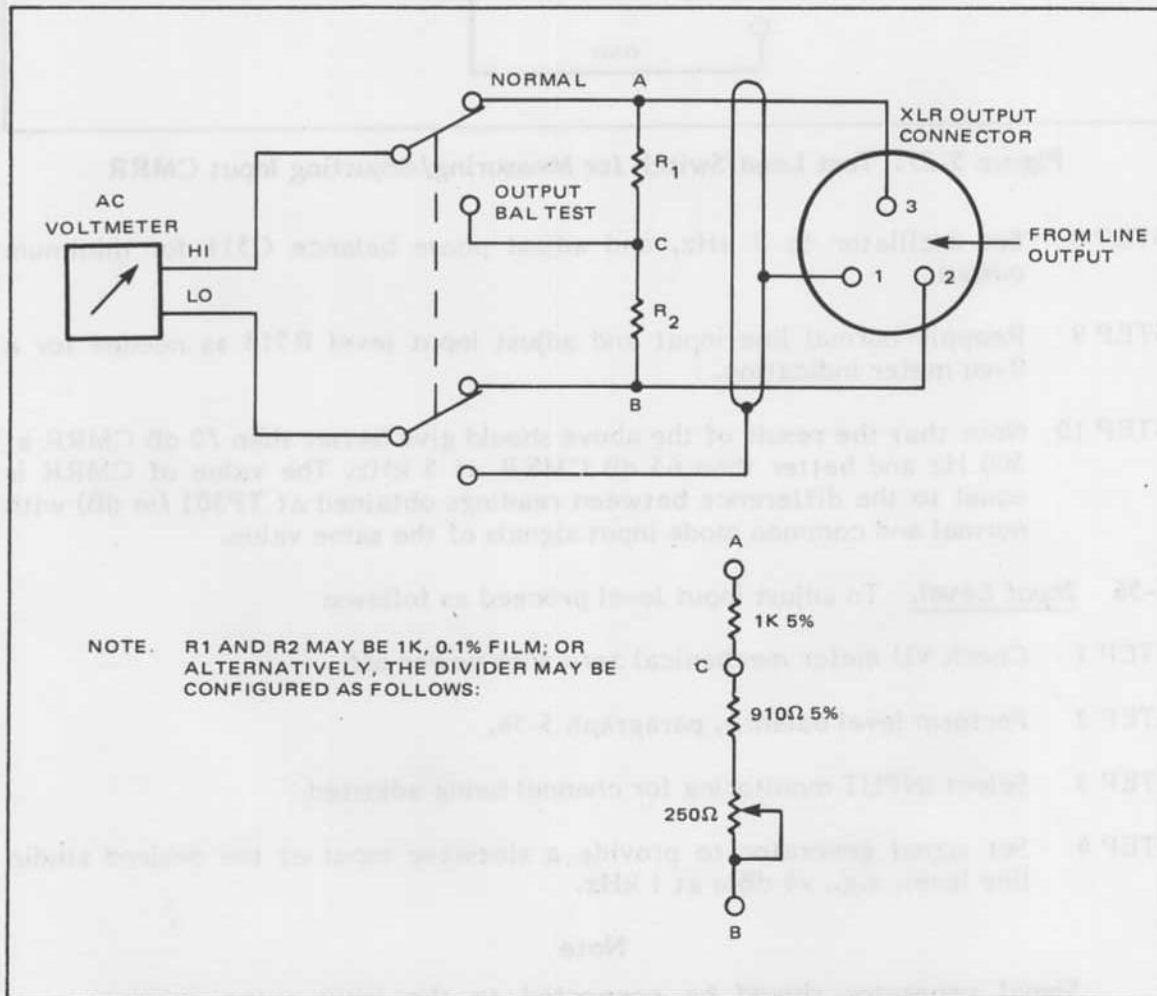

Figure 5-28. Output Common Mode Balancing Test Circuit
STEP 1 Make test cable indicated in Figure 5-28.
STEP 2 Measure resistance across points A and C of Figure 5-28 with a DMM of 4-digit resolution, and note value.